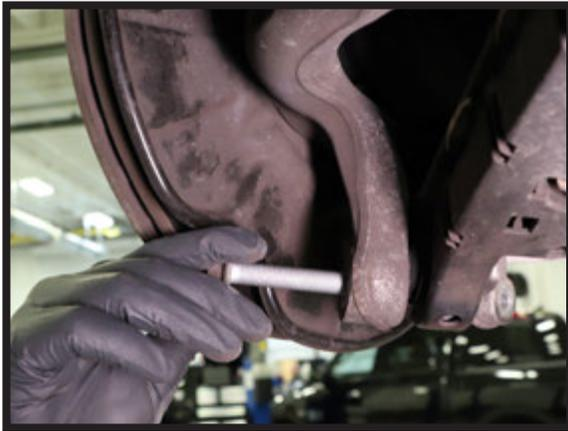

FIGURE 29
6. CONNECT TORSION BAR TO WHEEL CARRIER. (FIGURES 29, 30)